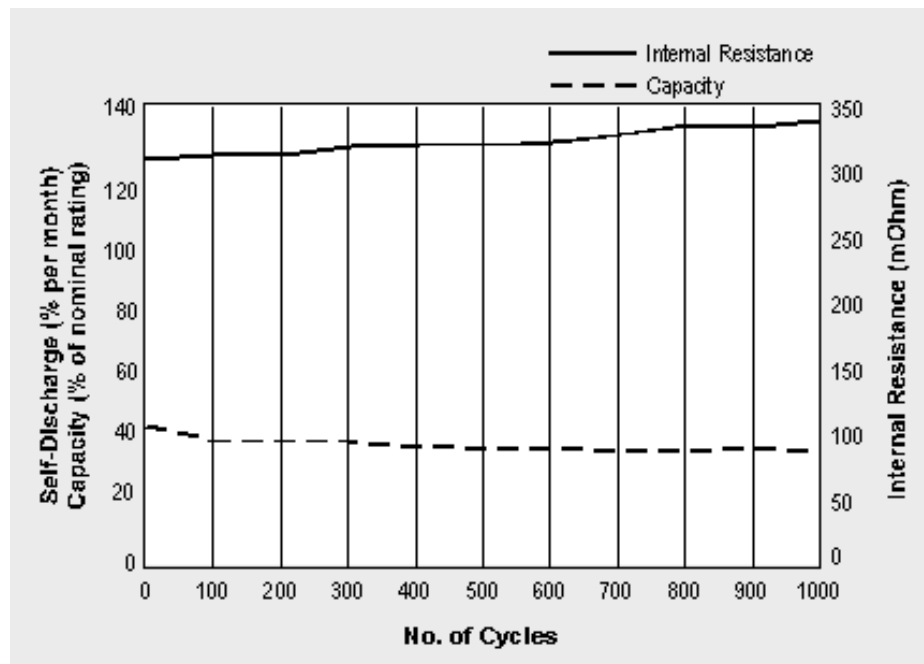

Figure 8-4: Characteristics of a Li-ion battery.
**The Li-ion Battery** — The Li-ion battery offers advantages that neither the NiCd nor NiMH can match. In Figure 8-4 we examine the capacity and internal resistance of a typical Li-ion. A gentle capacity drop is observed over 1000 cycles and the internal resistance increases only slightly. Because of low readings, self-discharge was omitted for this test.